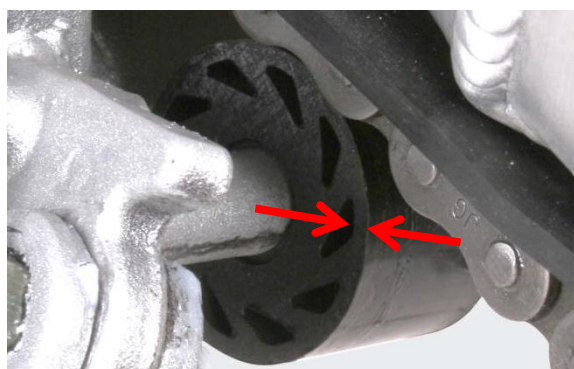

Fig. 1
3. If the roller has been worn down beyond the two points marked in Fig. 1, then the roller(s) must be replaced.